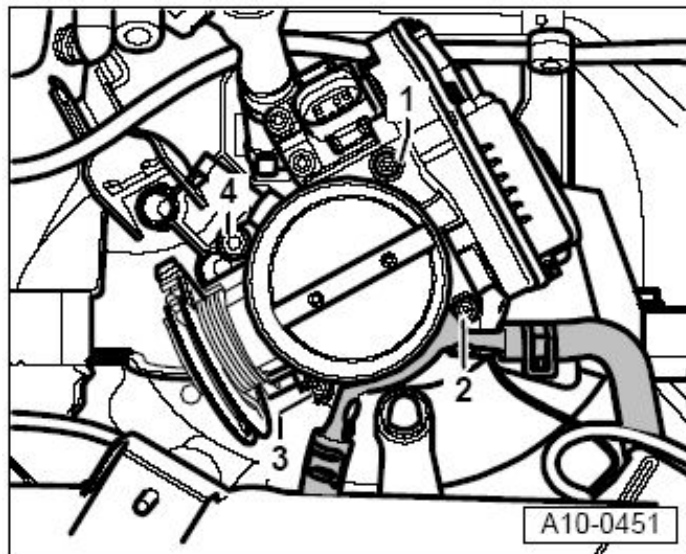

Figure 7. The location of the screws.
20. Remove throttle body from intake manifold by removing screws labeled 1, 2, and 3 in Figure 7 with a 5 mm hexagon socket. Remove screw labeled 4 in Figure 7 with an 8 mm hexagon socket.
Screws labeled 2 and 3 in Figure 7 also secure the throttle valve heating tube, and screw 2 also secures the ground wire.